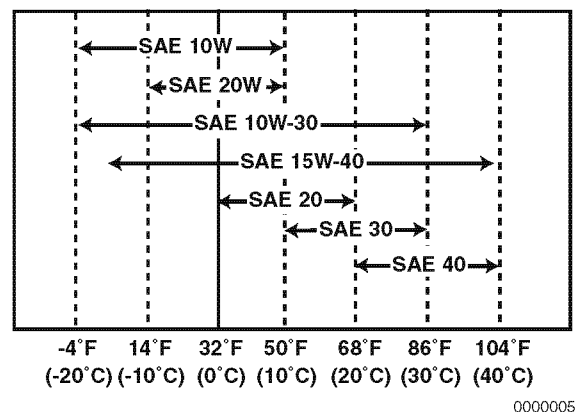

Figure 4-5
3. Select the oil viscosity based on the ambient temperature where the engine is being operated. See the SAE Service Grade Viscosity Chart (**Figure 4-5**).
Select the appropriate engine oil viscosity based on the ambient temperature and use the SAE Service Grade Viscosity Chart in **Figure 4-5**.